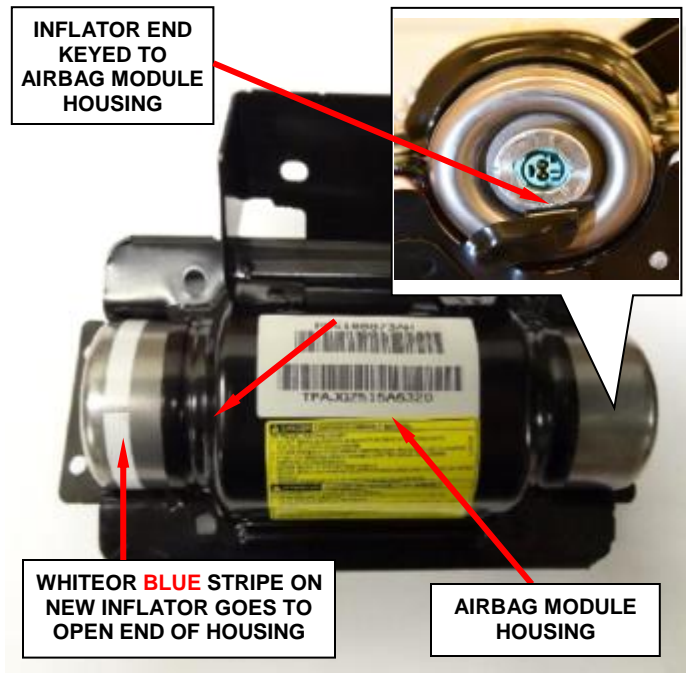

Figure 58 – Install New Inflator to Housing
NOTE: The inflator’s key **MUST** line up with the housing’s key (Figure 58).
1. Slide the **NEW** inflator into the passenger airbag module housing. The keyed end is inserted first; therefore, the white stripe on the **NEW** inflator will be located at the open end (Figure 58).